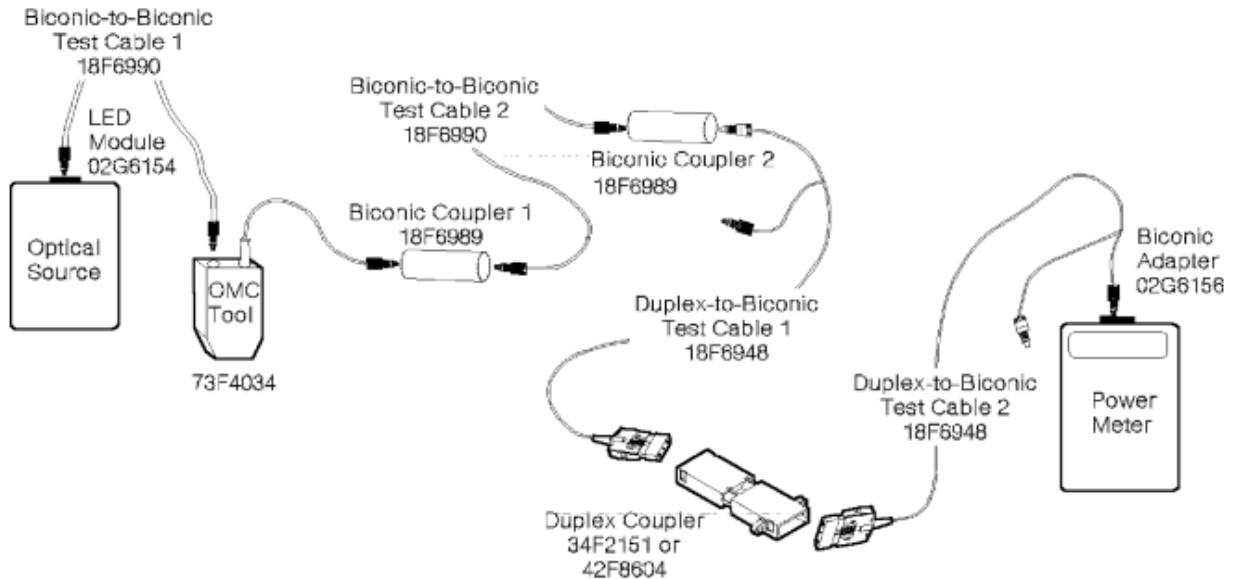

Figure 55. Obtaining **P3** for a multi-mode link
2. Make sure all connectors are clean; then assemble the components (see Figure 55 on page 48).